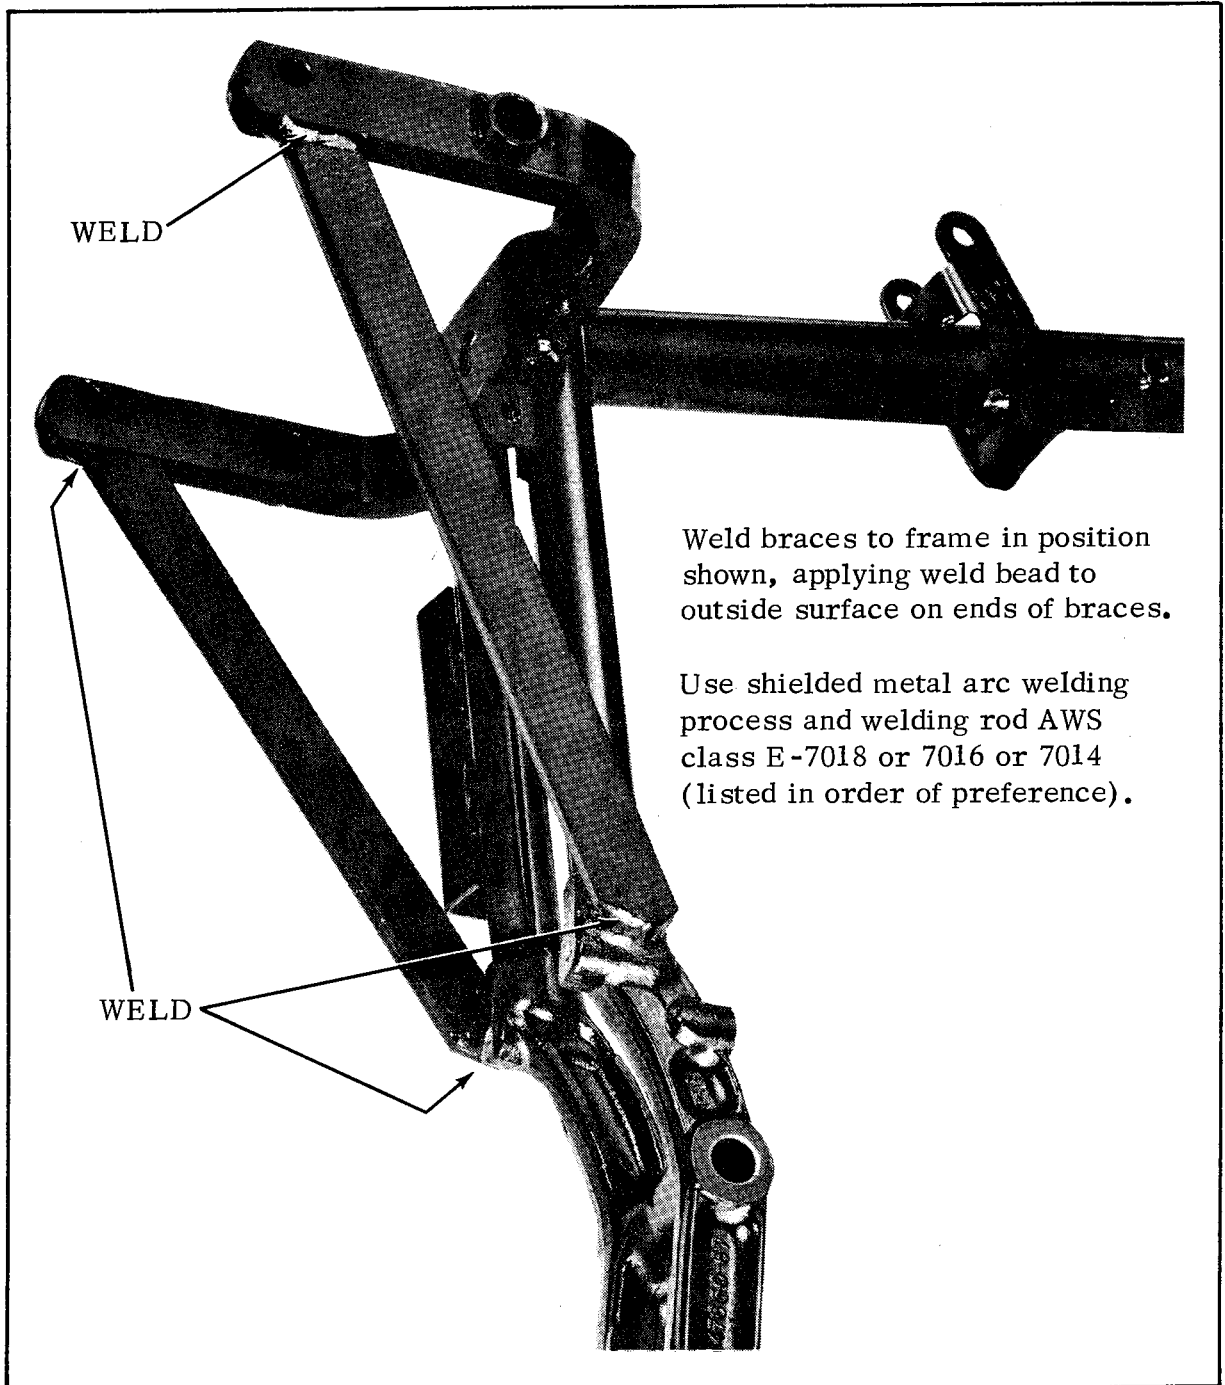

FIGURE 1
Arc weld braces (item 1) in place as shown in Figure 1 using shielded metal arc welding process. The areas to be welded MUST be free of paint, oil and dirt. Only the following 1/8 or 3/32 AWS electrodes, listed in order of preference, should be used.